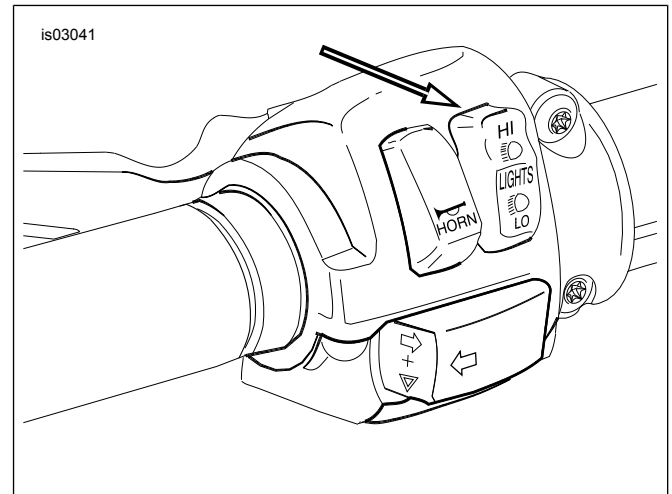

Figure 5. Headlamp Switch
- See Figure 5. Turn ignition switch ON. Set handlebar headlamp switch to HI beam position.